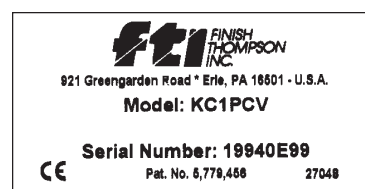

Figure 6
6. An information sticker is attached to the motor adapter section. The first line is the model number, the second is the serial number. See Figure 6.